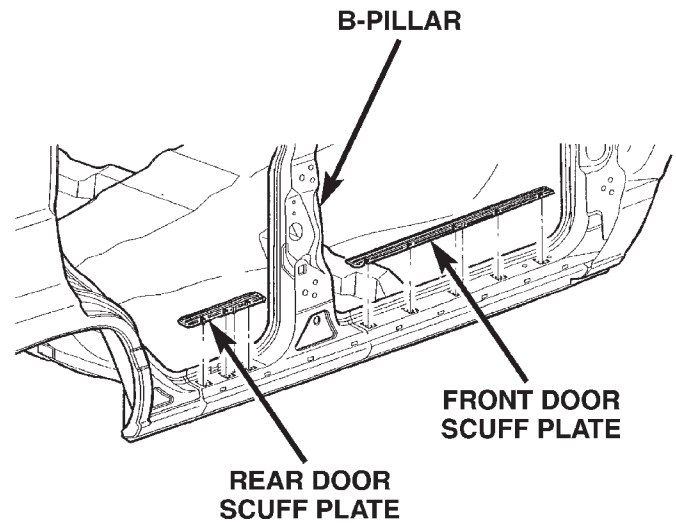

Fig. 58 Door Sill Scuff Plates
- (1) Using a trim stick or other suitable tool, carefully pry up the scuff plate from the door sill (Fig. 58).
- (2) Remove the scuff plate.
- (1) The rear door scuff plate is attached with mold-in snap retainers.
- (2) Using a trim stick or other suitable tool, carefully pry the scuff plate from the sill (Fig. 58).